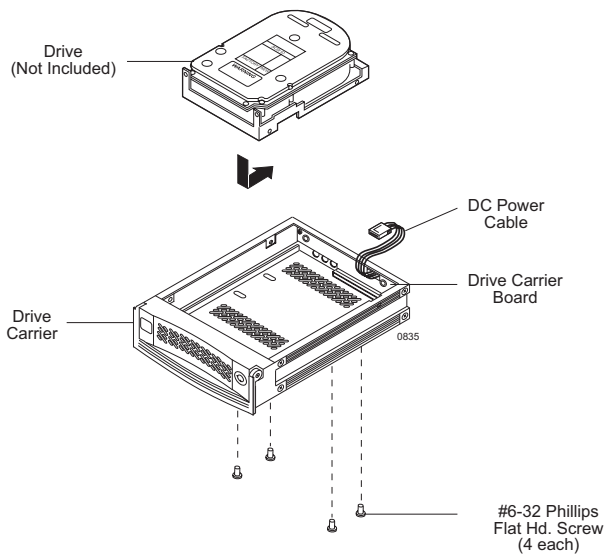

Figure 6: Drive Installation Assembly
1. Attach the DC power cable (from the Drive Carrier Board) to the drive (Figure 6).
2. Carefully insert the drive into the carrier. Slide the drive towards the Drive Carrier Board, so that the I/O connector on the drive mates with the connector on the Drive Carrier Board (Figure 6). **Make sure that the DC power cable is not pinched.**
3. Fasten the drive into place with four (4) #6-32 Phillips Flat Hd. screws (Figure 6). Some drives may require minor adjustment before securing into carrier with screws.